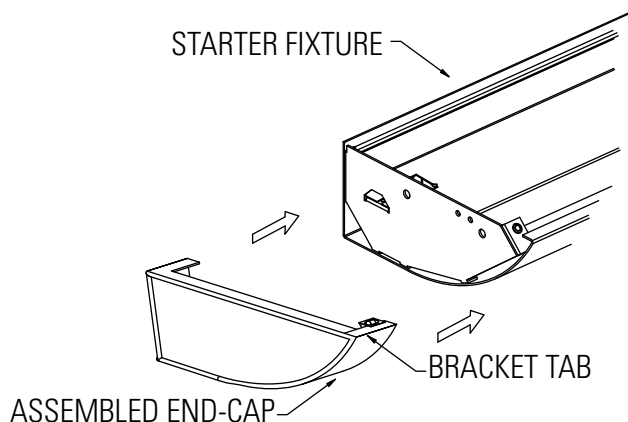
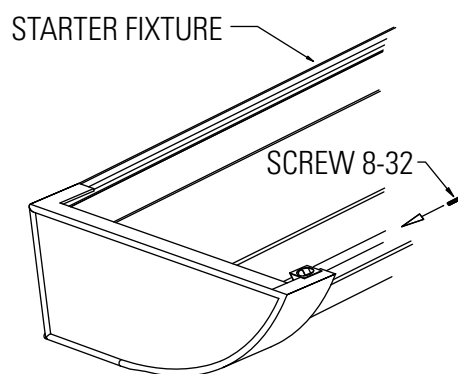

Figure 3
Figure 4
5. Bent BRACKET TAB back to its original position. Then fasten SCREW 8-32. (Fig. 3 & Fig. 4)
2. Place END-CAP on open end of fixture (Fig. 3 & Fig. 4)